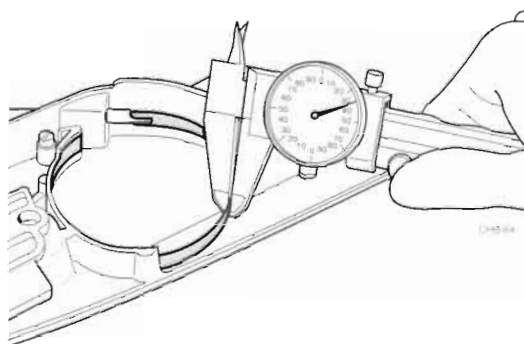

Figure 10.9 Measuring Brake Band Thickness
- Use a vernier or micrometer to measure brake band thickness at several contact points (Figure 10.9). Discard any band worn beyond 50% of original thickness.